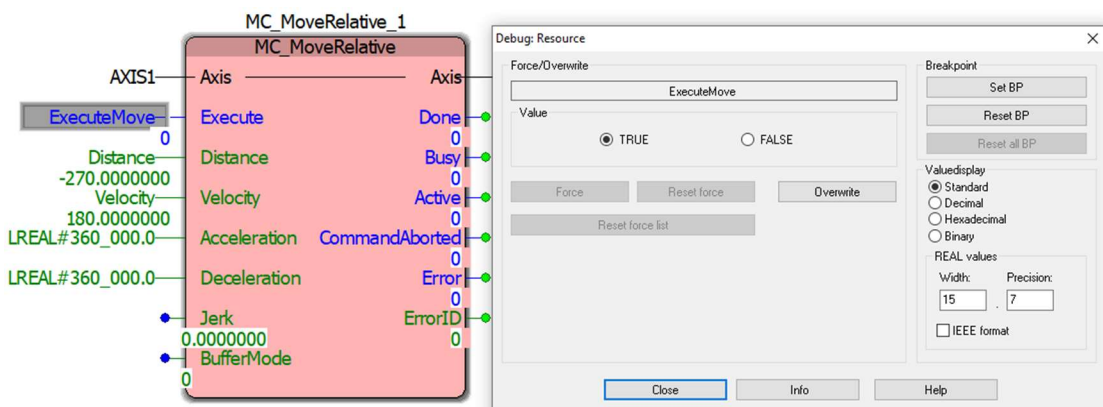

Figure 19: Executing MC_MoveRelative
- Now to move the motor, double-click 'ExecuteMove' and hit Overwrite to change the value as shown in Figure 19.